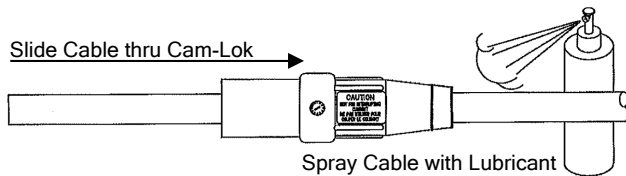

Figure 3
3. Apply lubricant to the cable jacket for an easier install of the cable into the E1016 Cam-Lok. See Figure 3.